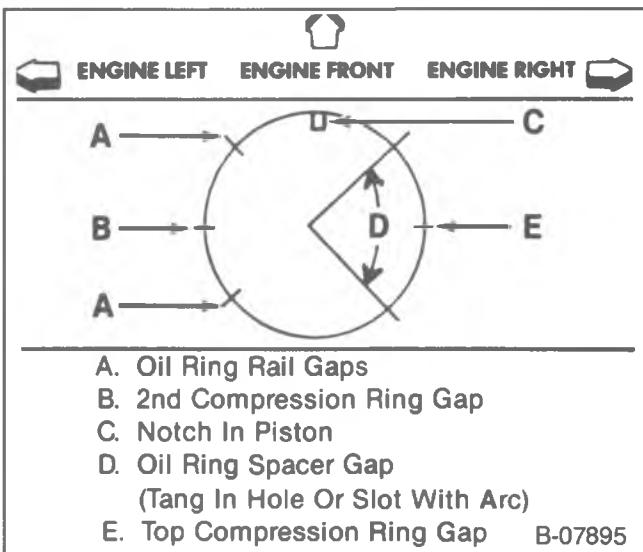

Figure 61—Installing the Torsional Damper
Install or Connect (Figure 61)
2. Stud (item A, figure 61) to the crankshaft. Thread the stud fully into the tapped hole in the crankshaft.
4. Bearing, washer and nut (figure 61).